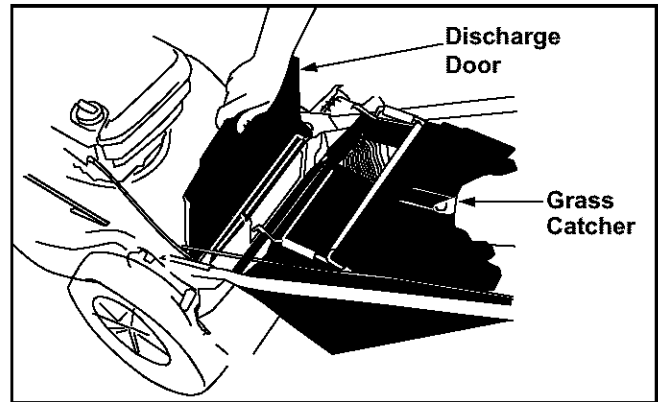

Figure 10
- Holding open the rear discharge door, place the grass catcher on the pivot rod. Let go of discharge door so that it rests on the grass catcher. See Figure 10.